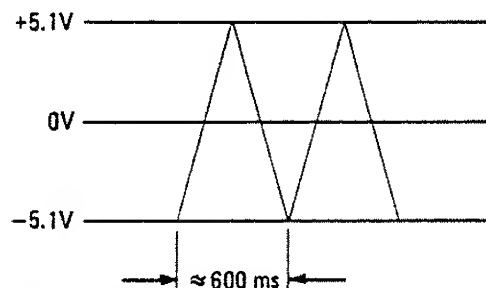

Fig. 6.16 Trigger Level Waveform
- (6) Verify that Input A and B TRIG LEDs are flashing, and that the displayed waveform is as shown in Fig. 6.16.